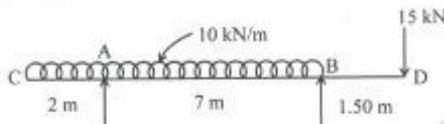

Fig. Q. 12. (a)
- (ii) Direct stresses of 140N/mm^2 tensile and 100N/mm^2 compression exist on two perpendicular planes at a certain point in a body. They are also accompanied by shear stress on the planes. The greatest principal stress at the point due to these is 160 N/mm^2 (8)
- (1) What must be the magnitude of the shear stresses on the two planes ?
- (2) What will be the maximum shear stress at the point ?
12. (a) Draw SFD and BMD and indicates the salient features of beam loaded Fig. Q. 12. (a) (16)